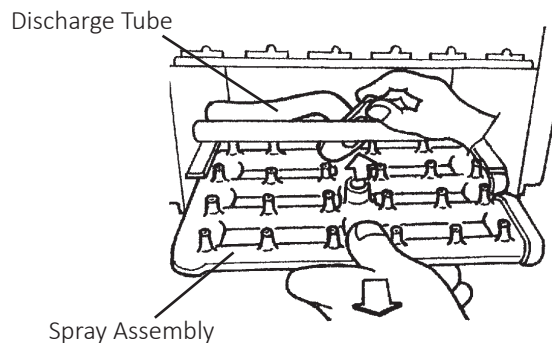

Fig. 32
- 7) Disconnect the discharge tube from the spray assembly, then slide out the spray assembly. See Fig. 32.